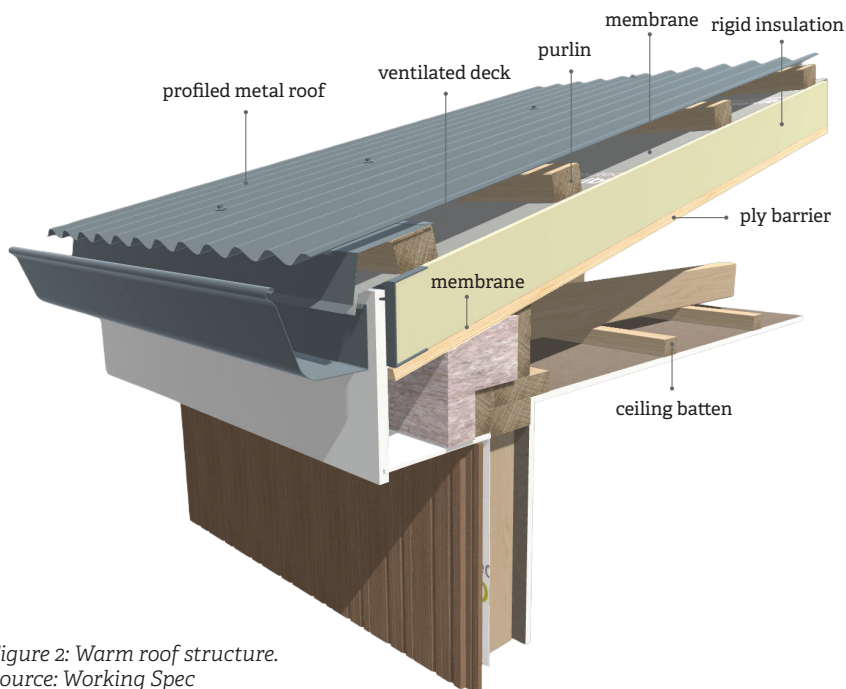

Figure 2: Warm roof structure.
- Built assembly with a ventilated conventional roof above (Figure 2) – a good